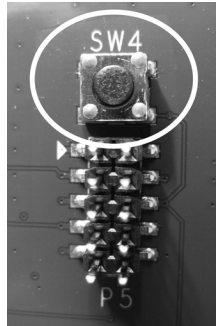

Figure 4 RESET button
- Press and release the RESET button, SW4 (see Figure 4).
- ii. **Normally Closed Contact Input Devices:** If the input device(s) to be connected to the 918 Series Alarm utilize normally closed contacts, set DIP switch, position from Table 2 in the ON position (see Figure 4).